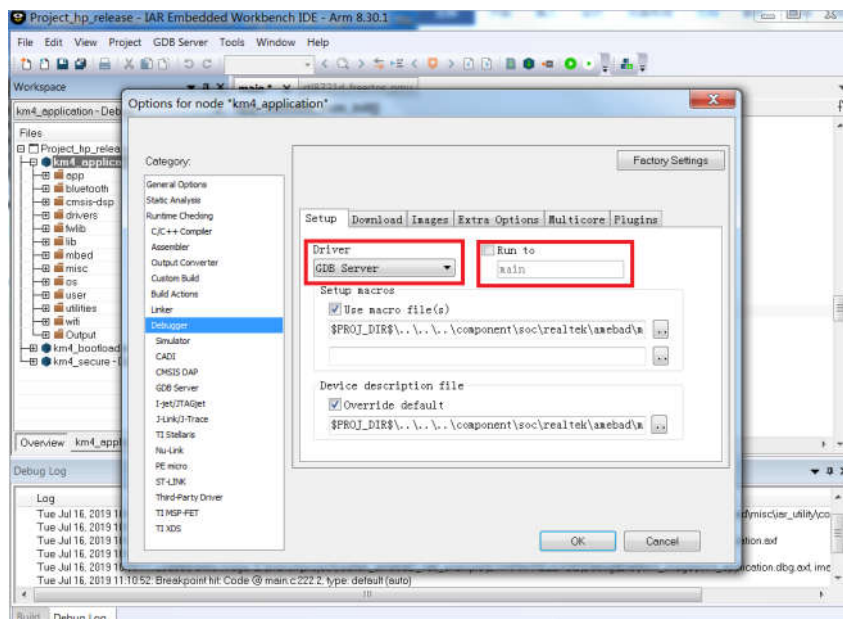

Fig 1-15 RLX Probe setup
- (3) If using RLX Probe, check whether the RLX Probe setting is correct.
- a) Click **Project > Options > Debugger > Setup > Driver**, choose “GDB Server” and don not choose “Run to”, as Fig 1-15 shows.